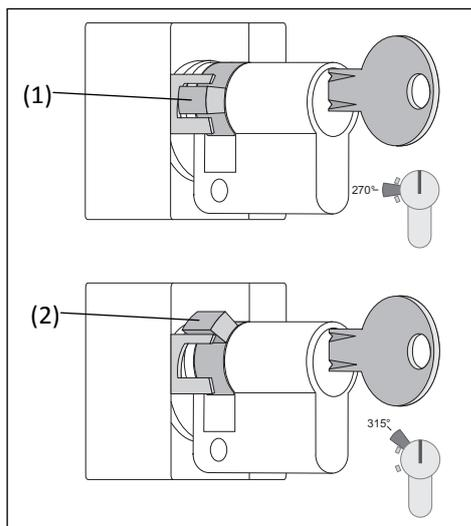

Figure 2
In order to change the switching position, the lock bit can be guided in the fork (1) of the switch/push-button insert, or can contact the fork laterally (2) (Figure 2). The switching positions in which the key can be removed depend on the lock bit position of the profile half cylinder being used. If the lock bit is guided in the fork, it can only be removed in one switching position (overview in the appendix).